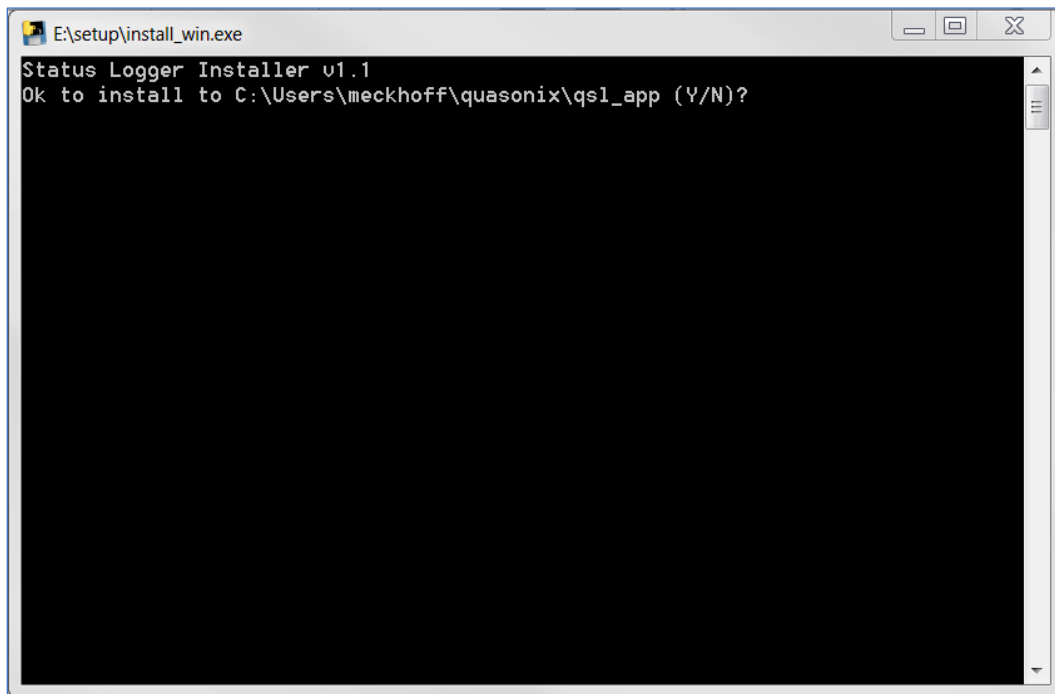

Figure 3: Status Logger Installer
4. In the \setup\install.exe screen, shown in Figure 3, type Y (for ok to install), then press the Enter key.